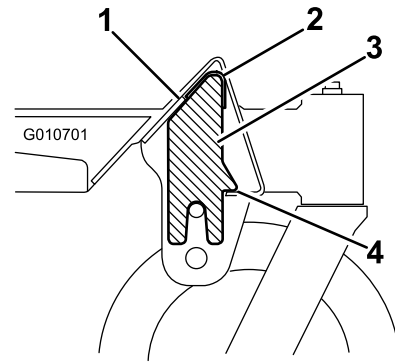

Figure 2
**Note:** When installing the front weight allow it to rest on the front lip of the underside of the machine frame as shown Figure 2. This will suspend the weight while you secure it to the machine. Use care not to dislodge the weight when installing the supporting rod.